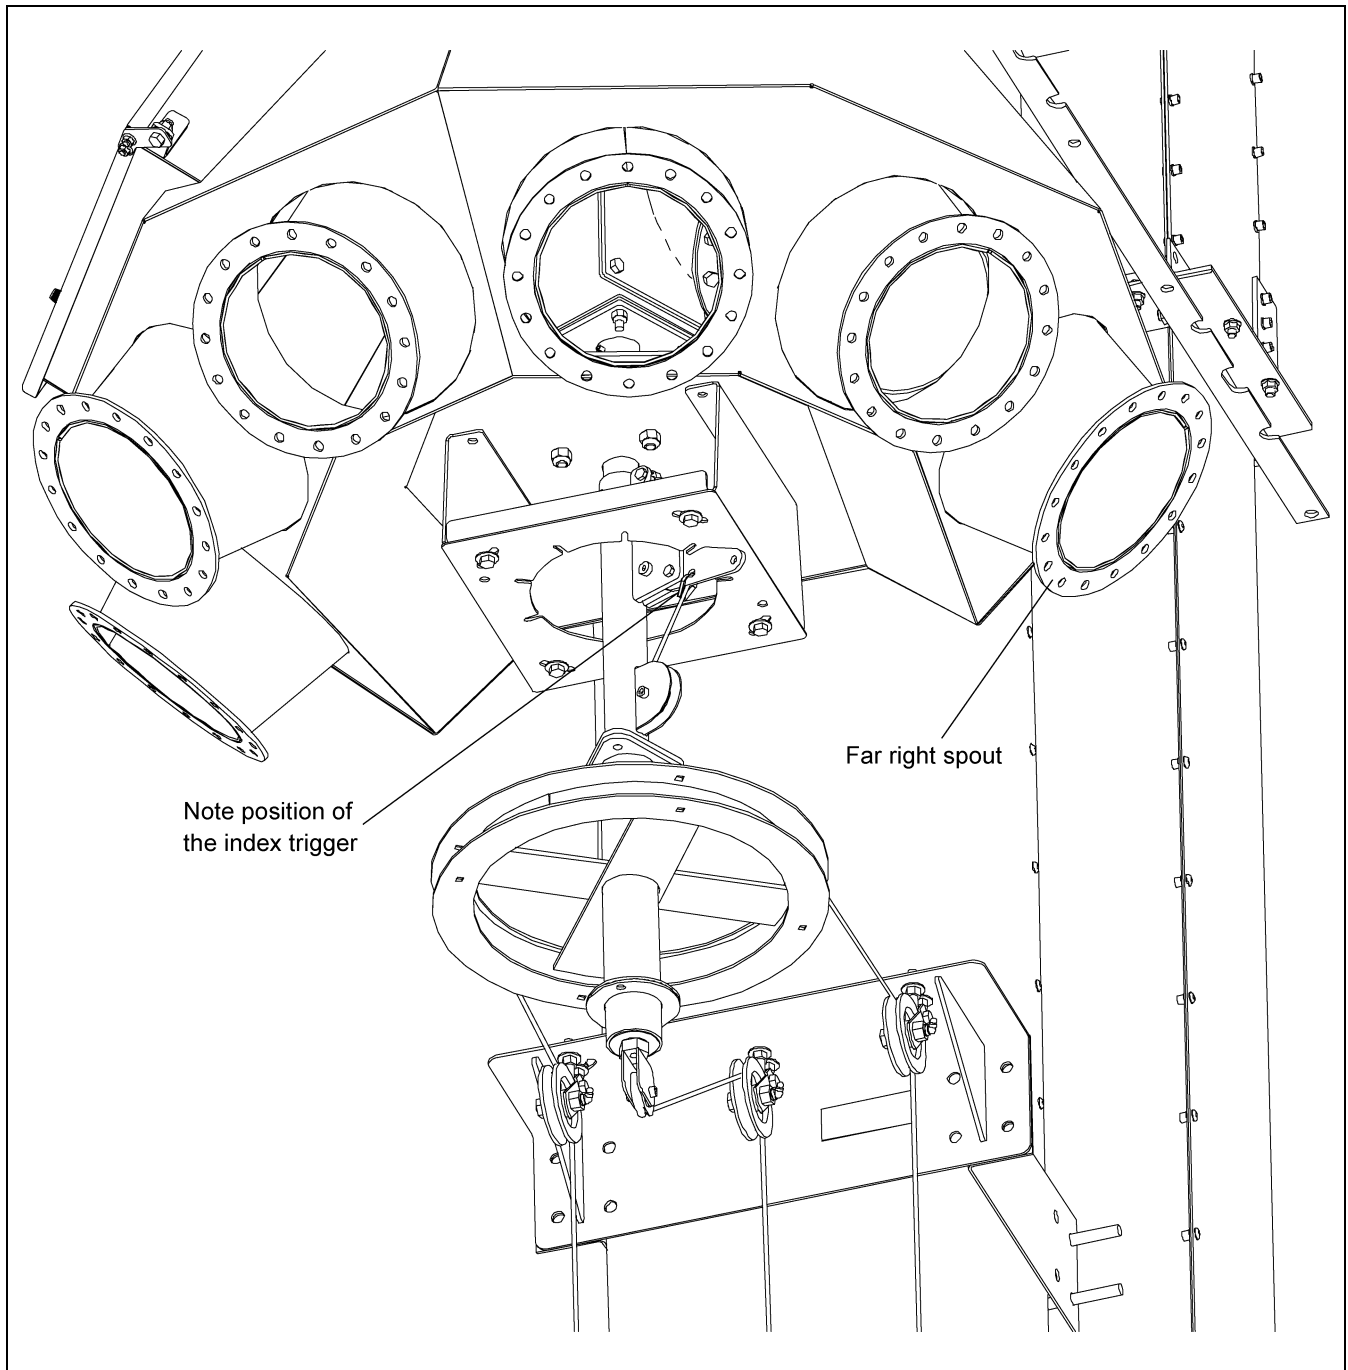

Figure 5M
1. Place the discharge spout index trigger to the far right as shown in Figure 5M.